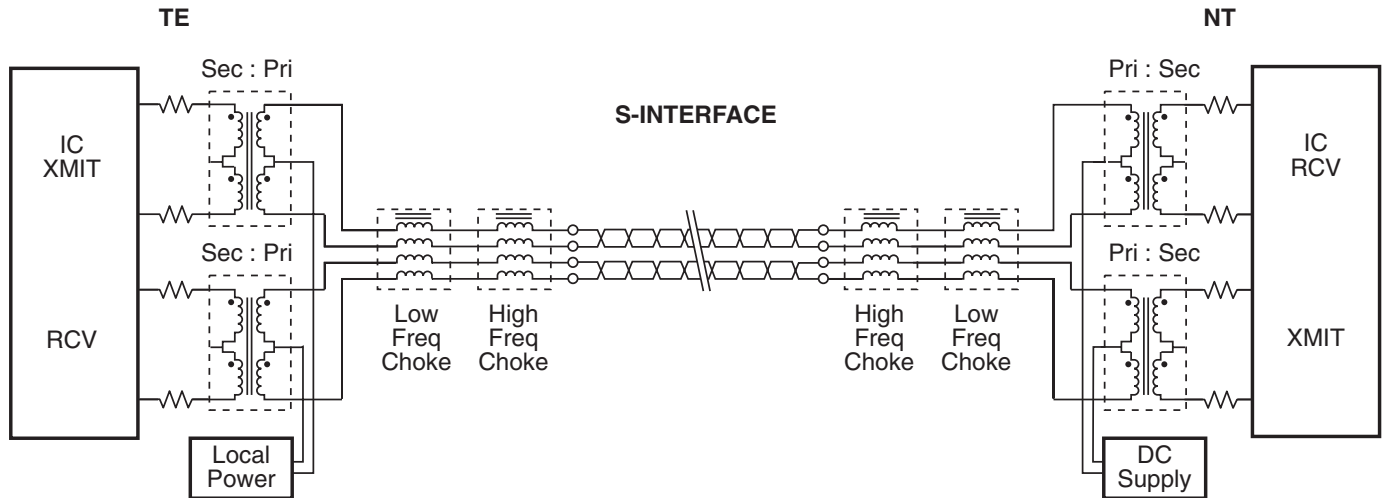

Figure 1. Typical ISDN S-Interface Application Circuit
1. General Information – The S-interface is the standardized four-wire digital telephone access point defined by the CCITT I-series recommendations for the Integrated Services Digital Network. This “basic rate access” accommodates two 64Kbps “B-channels” for information, one 16Kbps “D-channel” intended for signaling and control, and 48 Kbps for framing and other purposes, giving a total rate of 192Kbps. The CCITT physical layer recommends that the user network interface be transformer coupled. A typical application circuit is presented in **Figure 1**.
5. Common Mode Chokes – The “high frequency” 4-wire common mode chokes shown on pages 7 and 8 provide an effective means of compliance with national and international regulations on EMI. They are designed to be used in conjunction with either Pulse’s ISDN S-Interface or T1/CEPT transformers as shown in **Figure 1**. A high inductance “low frequency” common mode choke is recommended to improve balance, or to correct inherent unbalances of some ISDN S-Interface circuits.